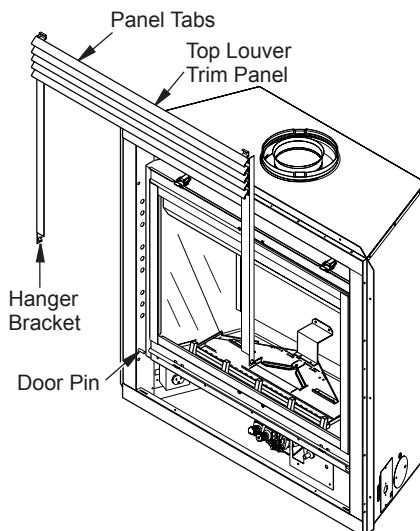

Figure 44 - Removing Top Louver Trim Panel
1. Grasp two hanger brackets at bottom and pull up until hanger brackets release from door pins (see Figure 44).
2. Remove top louver trim panel (see Removing Top Louver Trim Panel and Figure 44).